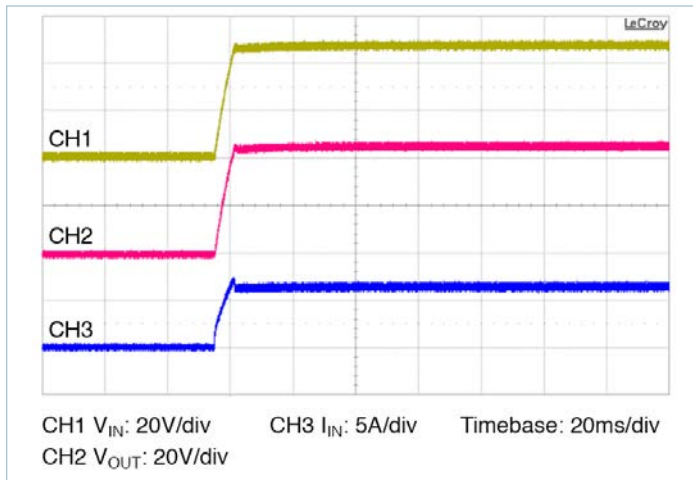

Figure 13 — Start up from application of V_{IN} ; VC pre-applied $C_{OUT} = 100\mu\text{F}$
- **Normal operation (VC applied prior to V_{IN}):** In this case the controller is active prior to ramping the input. When the input voltage is applied, the VTM module output voltage will track the input (See Figure 13). The inrush current is determined by the input voltage rate of rise and output capacitance. If the VC voltage is removed prior to the input reaching 26V, the VTM may shut down.